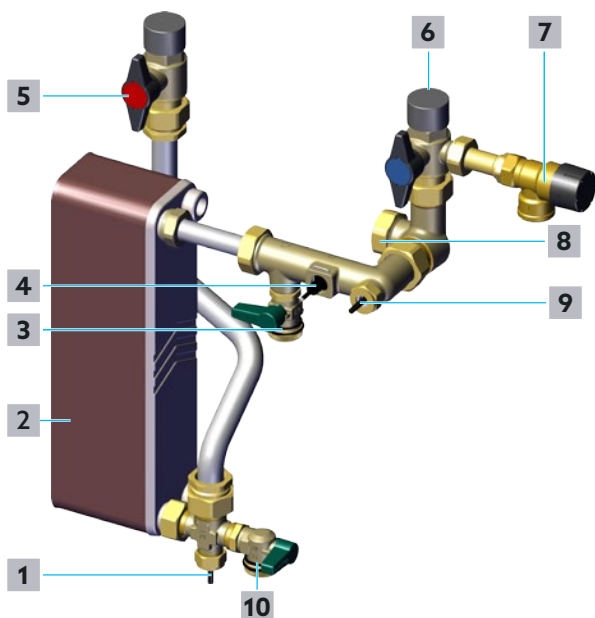

Fig. 31: Potable water circuit
- 2 Slowly close the shutoff ball valve for potable water (hot) (position **5** in Fig. 31 on page 49 and position **10** in Fig. 2 on page 12).
- 3 Slowly close the shutoff ball valve for potable water (cold) (position **6** in Fig. 31 on page 49 and position **11** in Fig. 2 on page 12).
- 4 Unscrew the cap of the fill and drain ball valve for potable water (hot) (position **10** in Fig. 31 on page 49 and position **16** in Fig. 2 on page 12).
- 5 Connect the drain hose for potable water to the fill and drain ball valve for potable water (hot) (position **10** in Fig. 31 on page 49 and position **16** in Fig. 2 on page 12).
- 6 Open the fill and drain ball valve for potable water (hot) (position **10** in Fig. 31 on page 49 and position **16** in Fig. 2 on page 12).
- 17 Close the fill and drain ball valve for potable water (hot) (position 10 in Fig. 31 on page 49 and position 16 in Fig. 2 on page 12).
- 5 Close the fill and drain ball valve for potable water (hot) (position 10 in Fig. 31 on page 49 and position 16 in Fig. 2 on page 12).